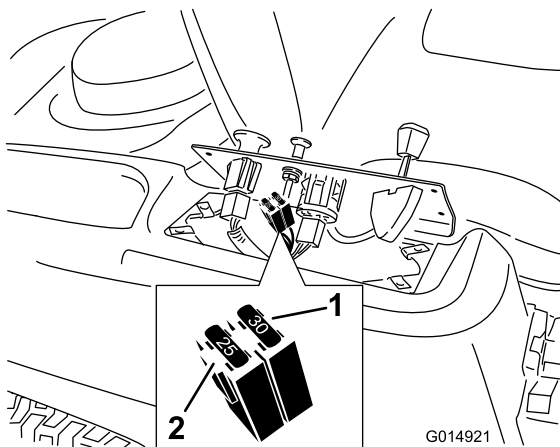

Figure 31
2. Lift the control pane up to access the main wiring harness and fuse block (Figure 31).
3. To replace a fuse, pull out on the fuse to remove it (Figure 31).